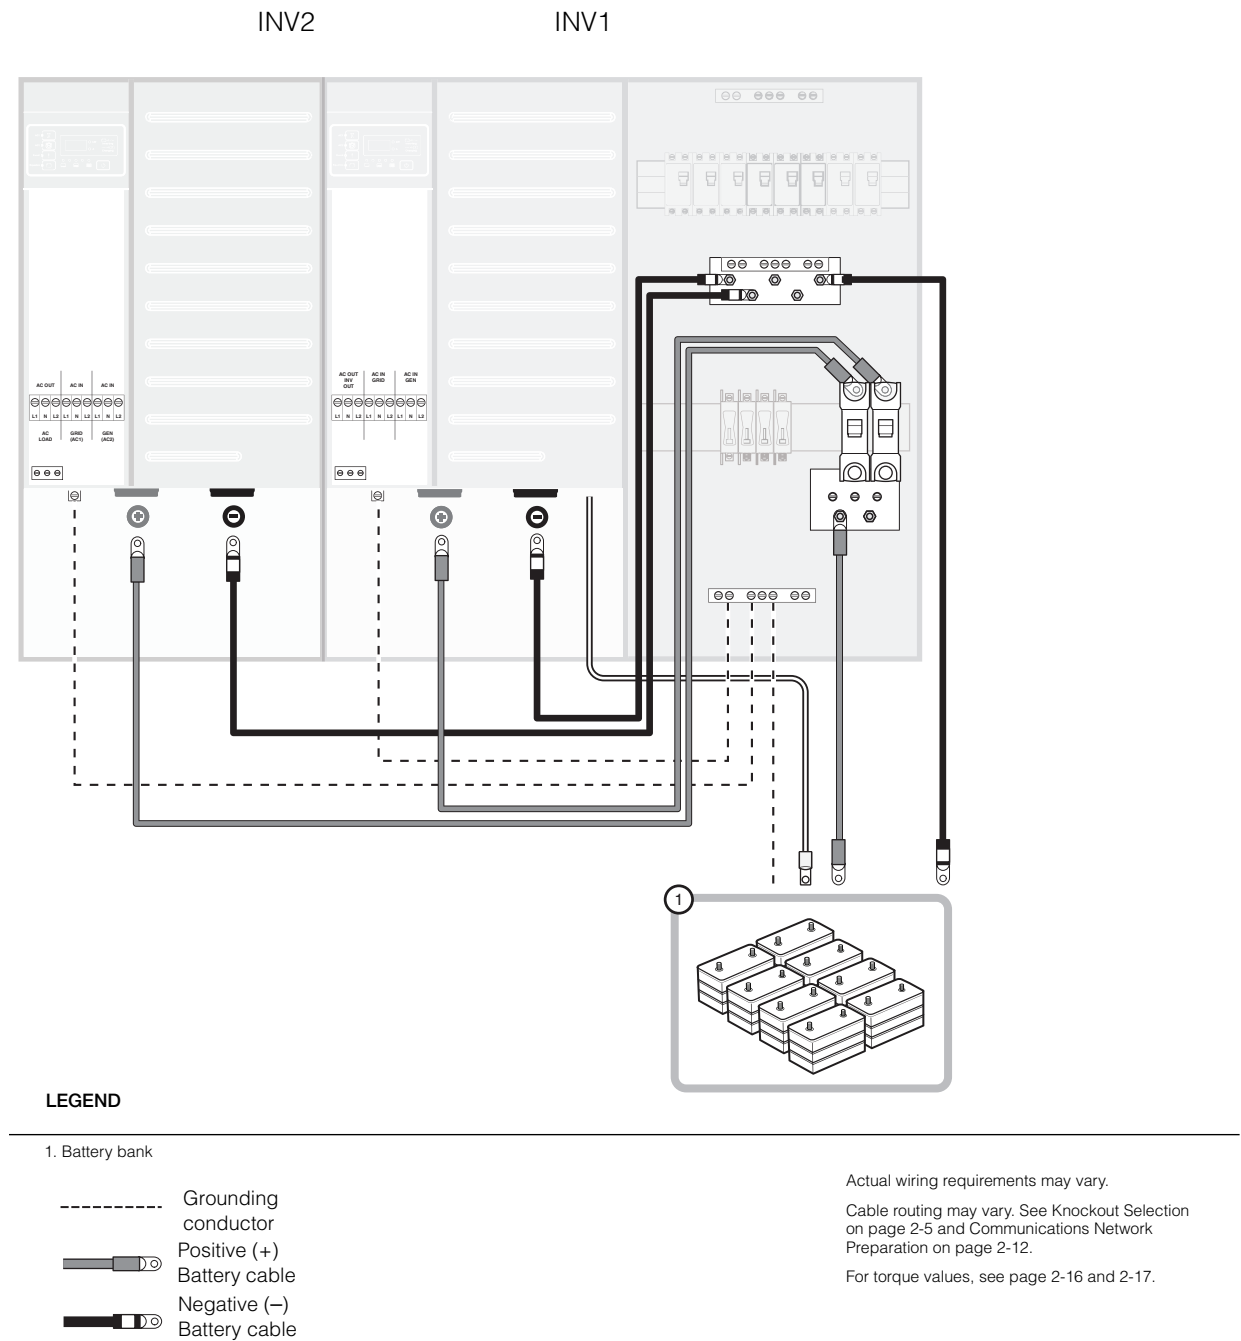

Figure 3-23 DC Connections to Dual Inverter
2. Connect the positive battery cable for INV2 (included with the Conext XW+ Connection Kit for INV2 INV3 PDP) to the top terminal on the second DC disconnect/breaker, as shown in Figure 3-23 on page 3–42.